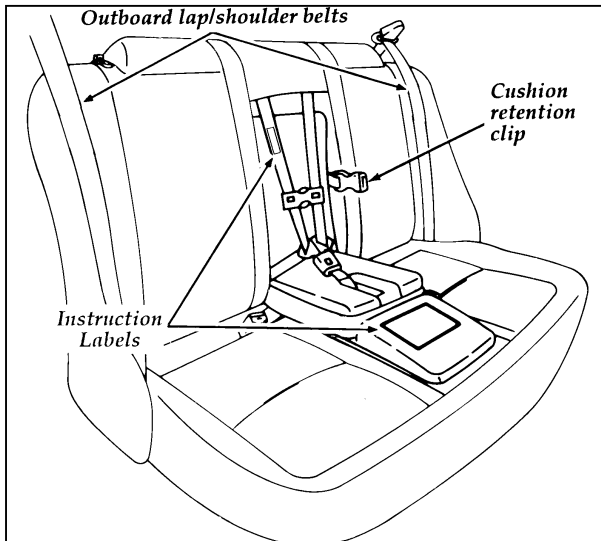

Figure 4: Location of cushion retention clip and warning/instruction labels
6. Push down on the child seat and, at the buckle, pull up on the shoulder belt to tighten the lap belt portion of the combination lap and shoulder belt. See Figure 4.
2. Release the cushion retention clip. See Figure 4.
4. Read the information and warnings on the top half of the child seat flap and shoulder belt. Refer to Figure 4. Check the child's size, weight and age to be sure the child is not too small or too large for the child seat.